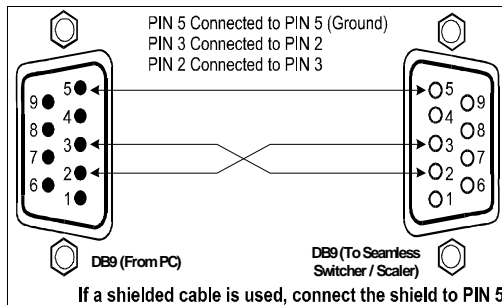

Figure 2: Connecting the PC
- Connect the RS-232 DB9 port on your PC to the RS-232 DB9 rear panel port on the **VP-719DS** unit, forming a cross-connection², as Figure 2 illustrates